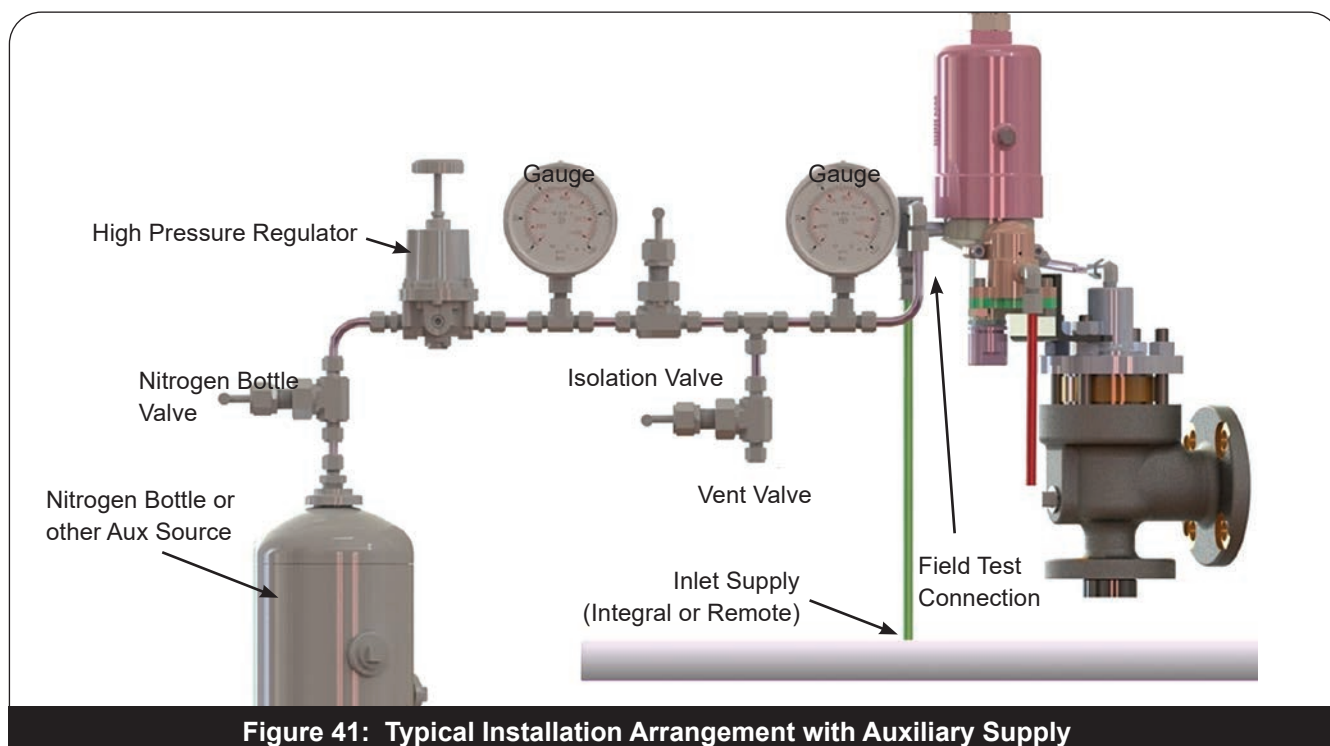

Figure 41: Typical Installation Arrangement with Auxiliary Supply
A 1/4" FNPT field test connection (Figures 39 and 40) is standard on all Consolidated pilot valve types, 39PV series and 39MV series. The field test connection along with an auxiliary pressure source can be used to provide a stable and constant pressure to the pilot valve and dome of the main valve. An internal check valve is present in the field test connection isolating the inlet media from the auxiliary pressure source media and at the same time, allowing the valve to open normally in the event of a system over pressurization while using the field test connection. **Figure 41** represents the recommended schematic for supplying auxiliary pressure to the POSRV. The "Connection to Valve Test Plug" mates with the 1/4" FNPT of the Field Test Connection.
2. Connect **Field Test Arrangement** to **Field Test Connection** (Figure 41).